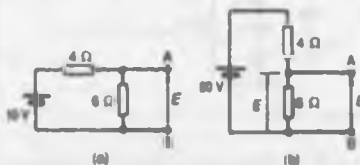

Figure 13.29
- (ii) The open-circuit voltage, E , across terminals AB in Fig. 13.29(a) is the same as the voltage across the $6\ \Omega$ resistor. The circuit may be redrawn as shown in Fig. 13.29(b).